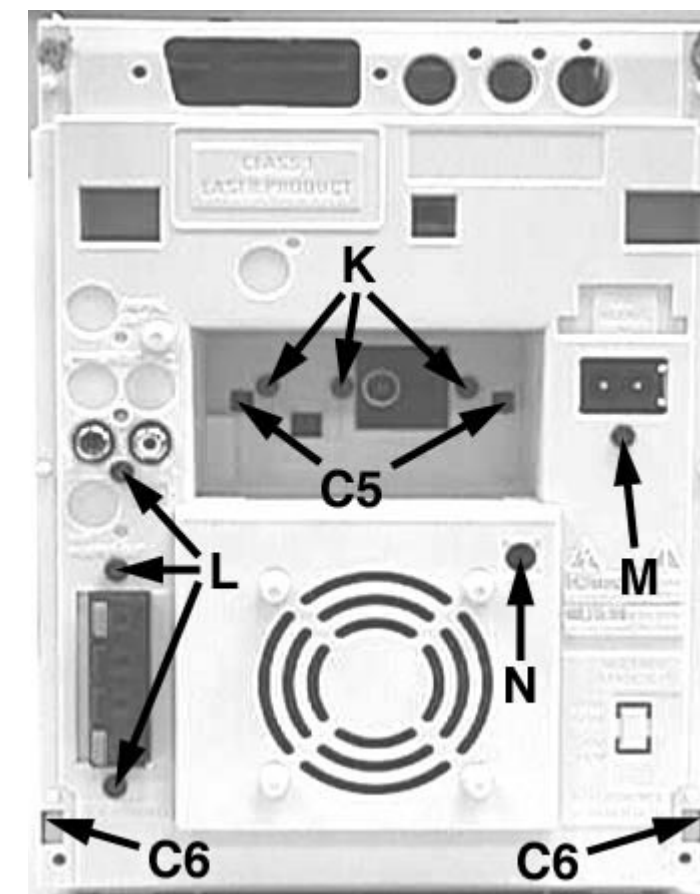

Figure 15
- 1) Loosen 3 screws K and 2 catches C5 (see Figure 15) to remove the Tuner Board assembly.
- 2) Loosen 3 screws L (see Figure 15) to free the Combi Board (pos 1102-1003).
- 3) Loosen 1 screw M (see Figure 15) to free the Mains Socket Board (pos 1102-1001B).
- 4) Loosen 1 screw N and 2 catches C6 (see Figure 15) to free the Panel Rear (pos 230) by sliding it out towards the rear.